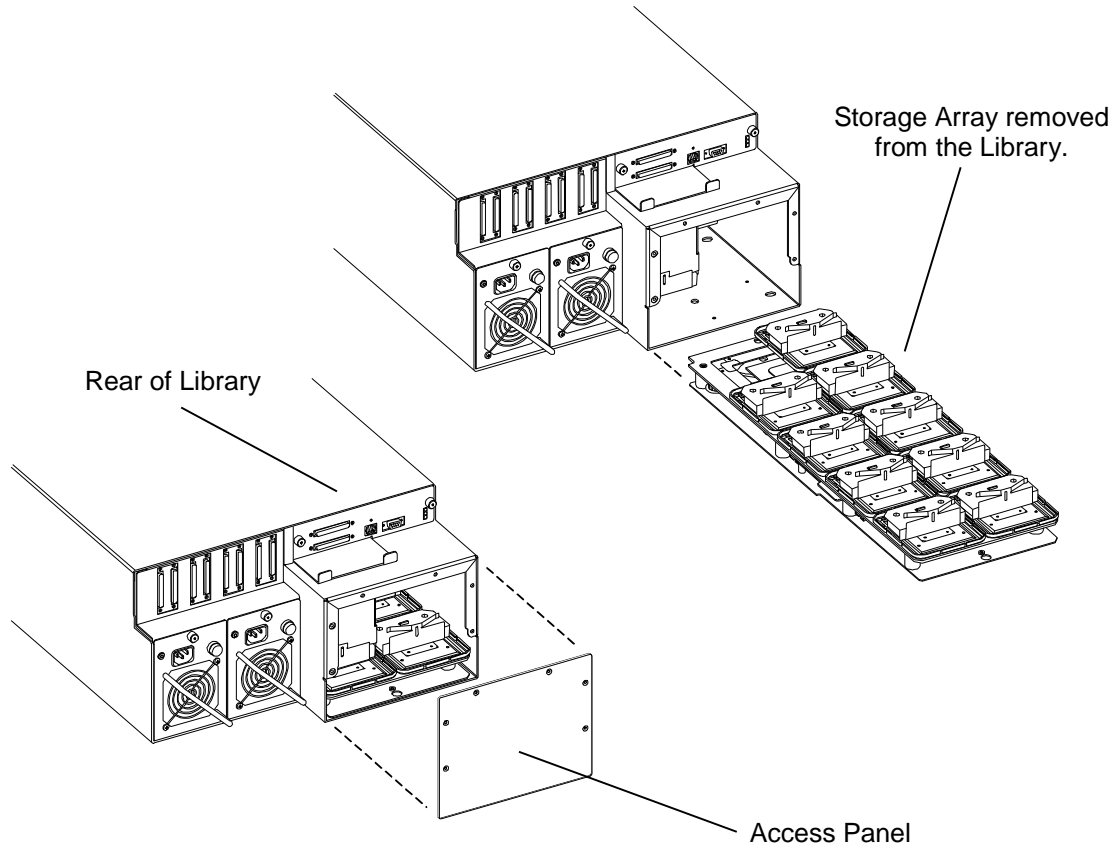

Figure 9-6 Access Panel on Rear of the Library and Storage Array Removed from Library
8. Using a No. 2 Phillips screwdriver, carefully remove the six screws that secure the access panel to the rear of the library. See Figure 9-6.
11. Set the RLS chassis upright. Grasp the front and the rear of the Storage Array Assembly and gently lift it up and then out through the rear of the chassis. See Figure 9-6.
11. Align the Access Panels holes with the mounting screw holes in the rear of the RLS, then reinstall all six of the Access Panels mounting screws. See Figure 9-6.